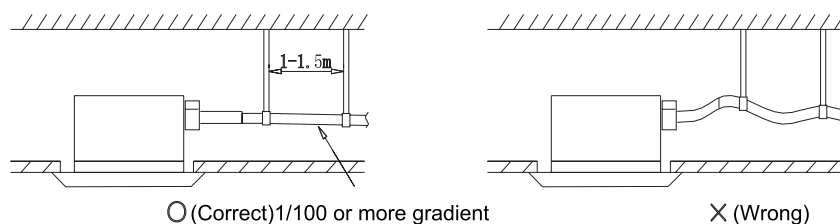

Figure 1-3-9
- The drain raising pipe should form a right angle with the unit, and distance to unit should not be beyond 300mm. (As shown in Figure 1-3-9)